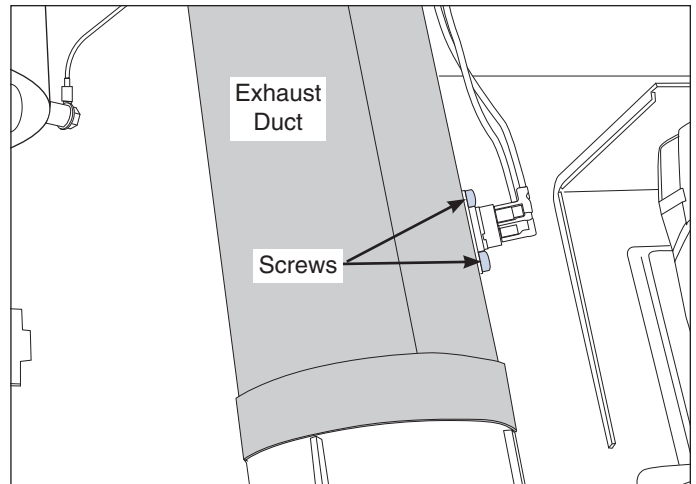

Figure 4-33.
3. Using a #2 square bit screwdriver, extract the two screws securing the exhaust thermal limiter to the exhaust tube. (See Figure 4-33)